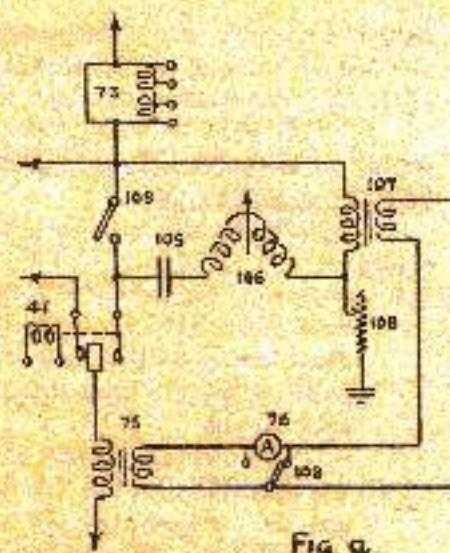

FIG. 8.
The arc standing circuit (fig. 8) is fitted with Type 1 in subarces. It consists of a condenser (105), variometer (106), and an adjustable resistance (107) of 4, 7.5, or 15 ohms connected to earth. The circuit is connected in series with the aerial circuit between the operating coil (75) and the aerial contact of the magnetic key (71) when the switch (108) is broken. An ammeter (73) is connected in the circuit, and the current of the arc or arc standing circuit is indicated in the ammeter (73) depending on the position of the switch (108). The circuit is used in subarces when spray continually washing over the aerial insulator would put the arc out. (See Admiralty Handbook of W/T (1931) para. 461.)